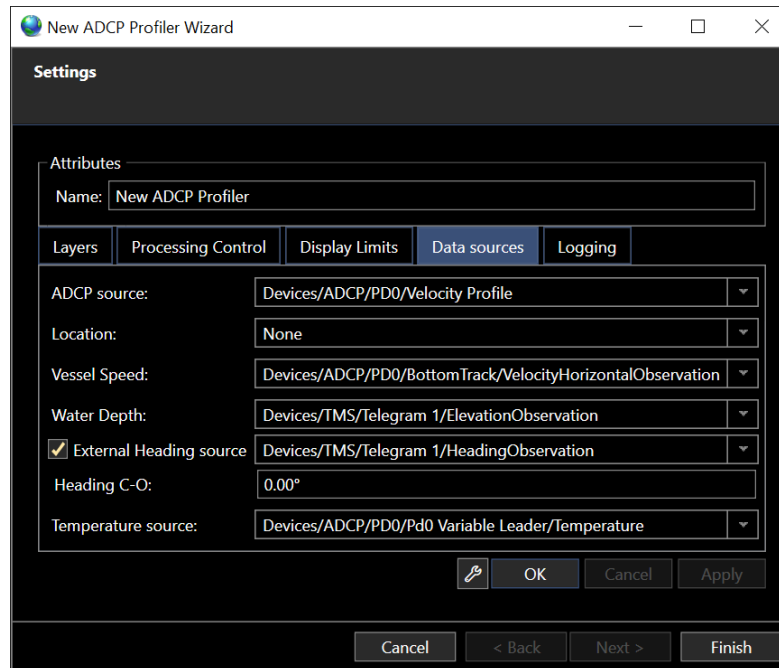

FIGURE 18-17 DATA SOURCES TAB
- The data sources tab is shown in Figure 18-17. This tab allows all data sources for the current profiler calculation to be set.